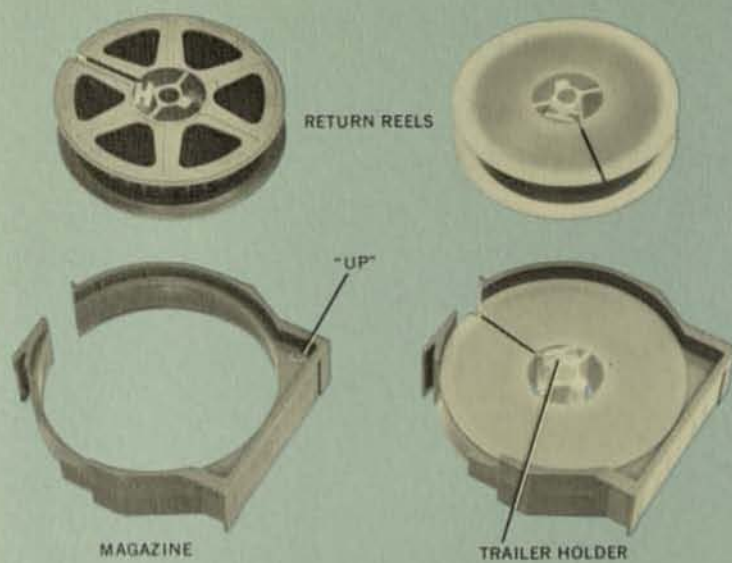
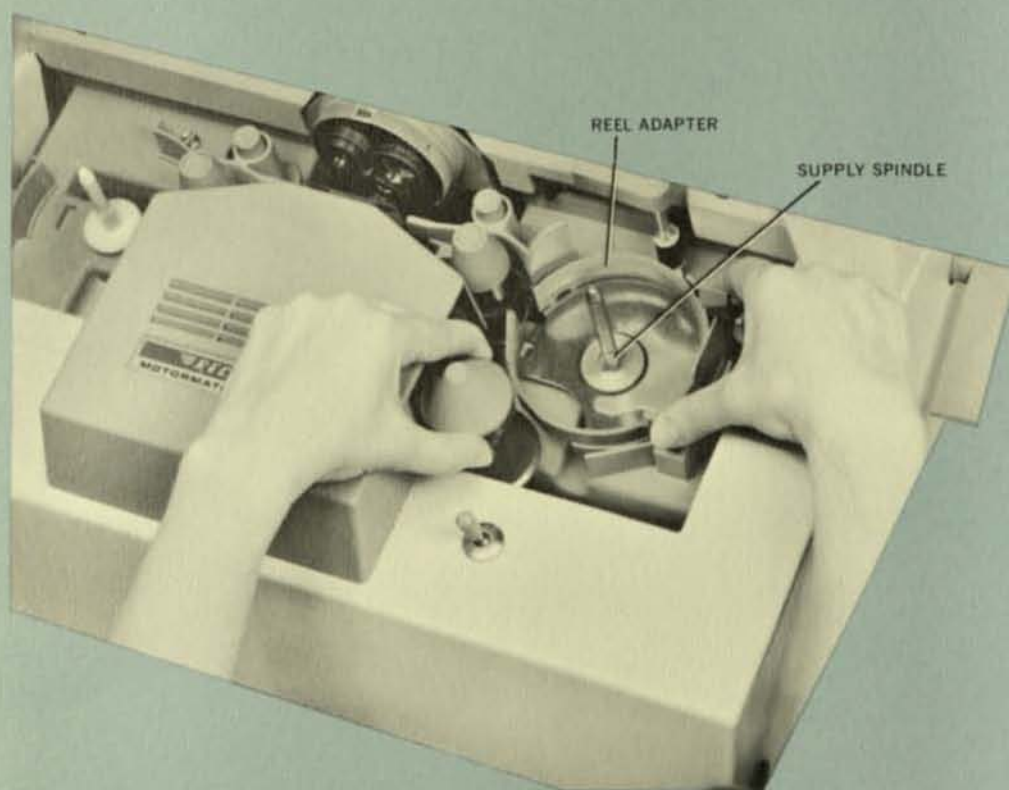

FIGURE 3
FIGURE 4
Film is self-threading when it is on spoked or solid-flanged, plastic KODAK RETURN REELS, figure 3, loaded in RECORDAK THREAD-EASY MAGAZINES. When the REEL ADAPTER, figure 4, is used, film not in magazines is self-threading if it is on spoked, plastic KODAK Return Reels (or equivalent), or on 16mm, solid-flanged plastic KODAK Return Reels. The trailing end of the film should be snubbed to the reel hub with a RECORDAK TRAILER HOLDER, figure 3, so that the film cannot pull out of the reel. Install the trailer holder as follows:
1. Hold the MAGAZINE, figure 3, so its flat side is nearest you and the word "UP" is visible.
3. Push forward and down on the reel to snap it into place. A properly installed reel is shown in figure 3.
When the film to be viewed is not in RECORDAK THREAD-EASY Magazines, the REEL ADAPTER, figure 4 must be installed in the reader first. To install the adapter and then load individual reels of film, proceed as follows:
3. Position the reel adapter over the SUPPLY SPINDLE as shown in figure 4. Push down on the adapter until it fits snugly in place. Figure 6 shows an adapter installed correctly.